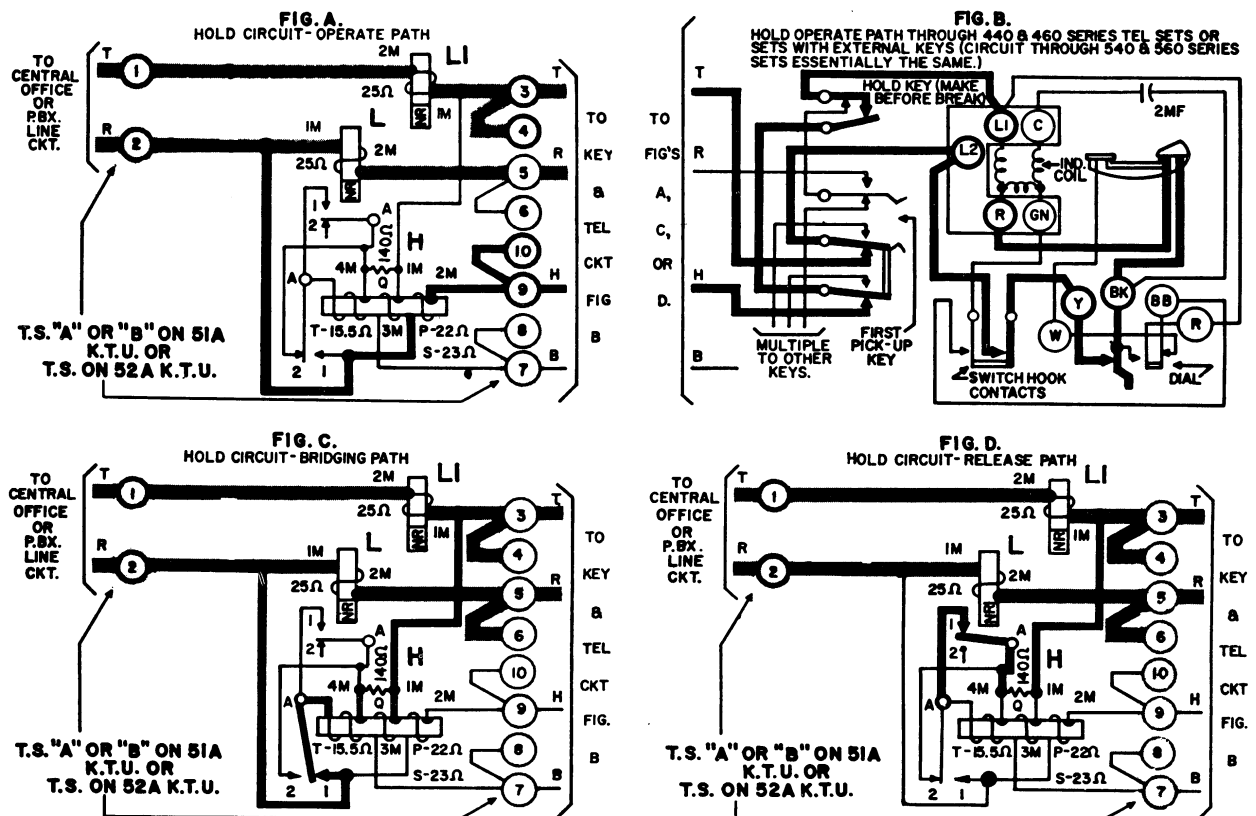

Fig. 8 Holding Circuit - 51A or 52AKTUS
- (h) Fig. 8 Holding Circuit for 51A and 52A KTU's.